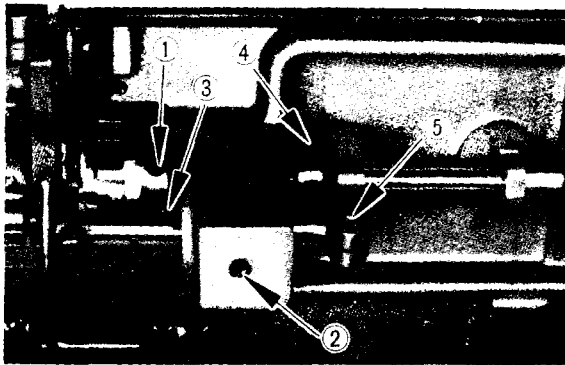
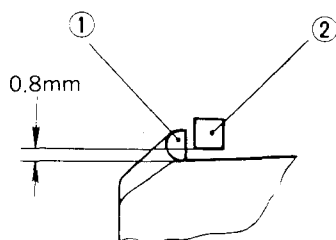

Fig. 20
Fig. 21
2. To adjust the clearance between the hook point and the needle hollow, loosen the two screws (①, Fig. 20) and move the hook to the right or to the left as may require. Please note one of the two screws is placed on the V ditch of hook shaft. Therefore, keep the screw on V ditch during adjustment. Re-tighten the screws.
en the two screws (①, Fig. 20) and move the hook to the right or to the left as may require. Please note one of the two screws is placed on the V ditch of hook shaft. Therefore, keep the screw on V ditch during adjustment. Re-tighten the screws.
### I) Clearance between the opener and projection of hook (Fig. 20 and 21):
1. Loosen the screw (②, Fig. 20)
2. Adjust the clearance between projection of hook (①, Fig. 21) and the opener (②, Fig. 21) by means of movement of thread releasing shaft bushing (③, Fig. 20) to the right or to the left as may be required. The standard clearance between the two parts is 0.8mm as shown Fig. 21.
3. Tighten the screw (②, Fig. 20) securely.
Place the one of screws (④, Fig. 20) which is indicated by "S" on V ditch of the hook shaft.
### III) Adjustment of operation: (Fig. 20 and 22)
3. This adjustment can be done by loosening the screw (⑤, Fig. 20).